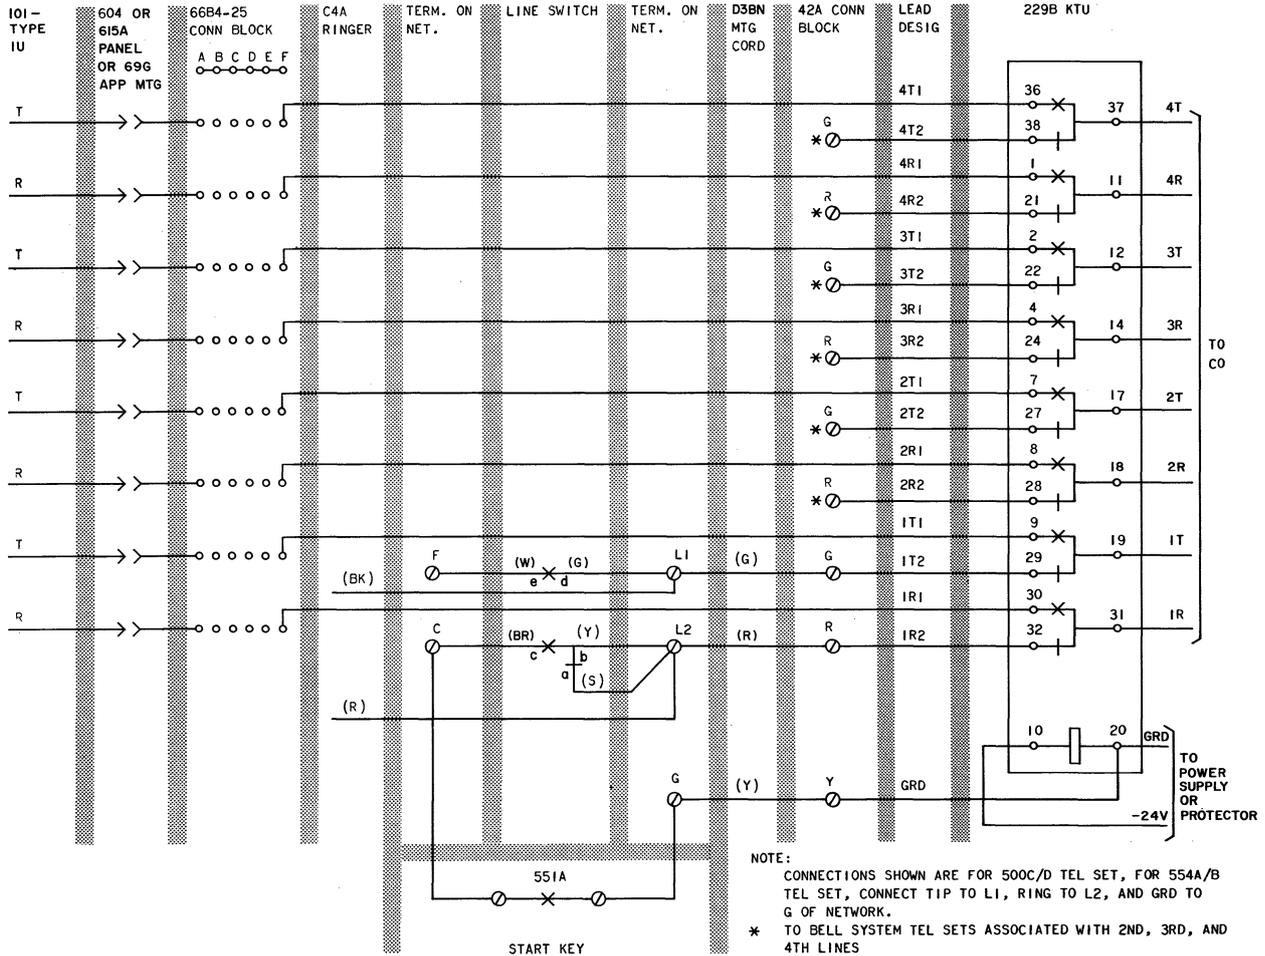

Fig. 17—Power Failure Transfer Circuit (Immediate Restoration)
**3.20** When power failure transfer with immediate restoral is required, the 229B KTU must be mounted externally and wired to the 615A or 604-type panel and selected telephone set as shown in Fig. 17. No telephone set modification is required.
#### **C. Power Failure Transfer (Immediate Restoral, Fig. 17)**
**6.06** For connection information using the power failure transfer circuit with immediate restoral, refer to Fig. 17 and make modifications and connections to telephone set as shown.